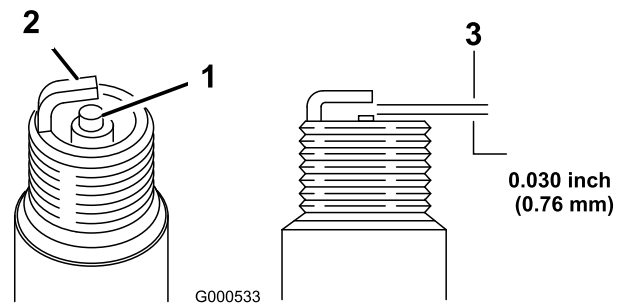

Figure 28
5. Set the gap on the plug to 0.030 in. (0.76 mm); refer to Figure 28.